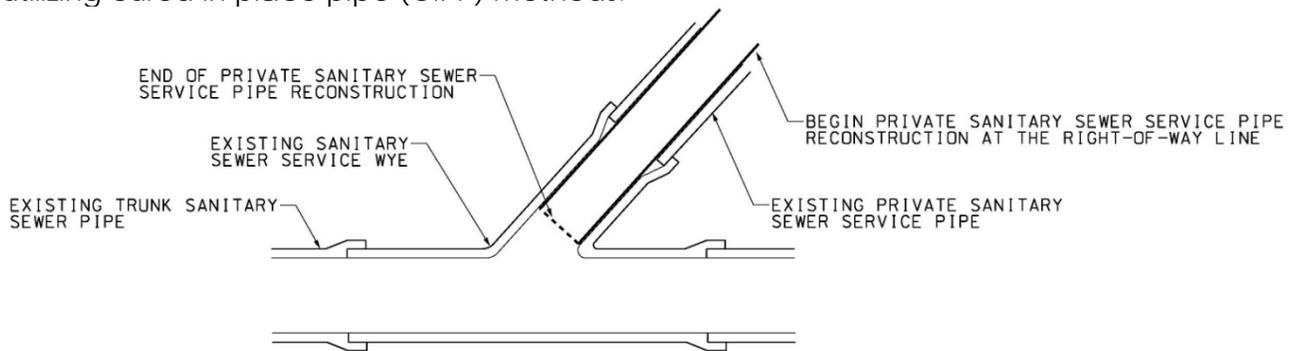

FIGURE 3
Description - Private contractors are required to repair the private sanitary sewer service pipe as shown in Figure 3. The City's contractor will not excavate to remove and replace the sanitary sewer wyes at these locations and will instead line the trunk sanitary sewer main utilizing cured in place pipe (CIPP) methods.
- 1) Your contractor must provide to the Building Department a video of your sanitary sewer service pipe finished as shown in Figure 3.